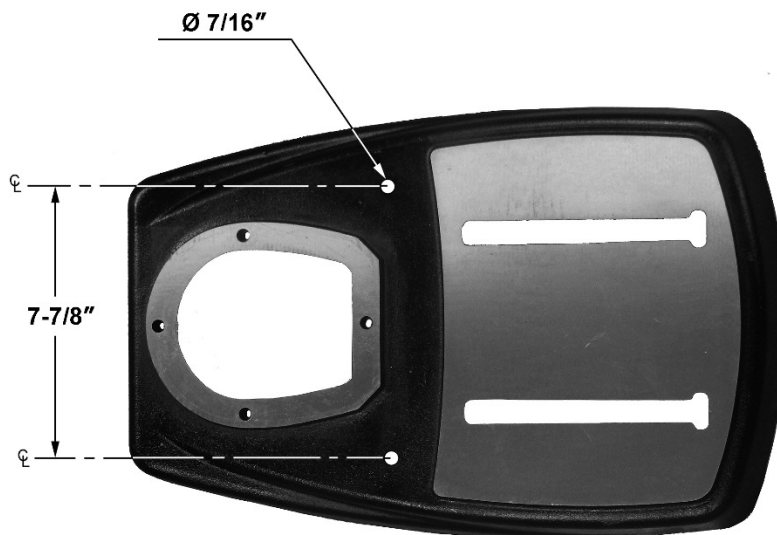

Figure 1: Base mounting holes
1. Place the base upon a level floor. It may be secured to the floor with lag screws (not provided) through the two holes in the base. Refer to *Figure 1* for hole spacing.